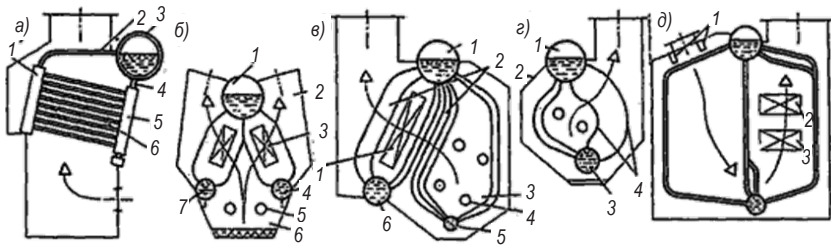
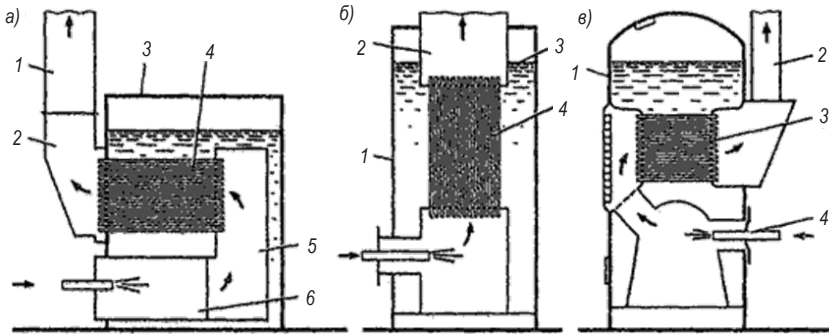

Fig. 10. Diagrams of the main design variants of water-tube boilers with natural circulation
Fig. 11. Schematic diagrams of gas-fired boilers
5. Select the definitions (right column of the table 5) for the most common auxiliary boilers on marine vessels (left column of the table 5) and indicate which of the diagrams correspond to them (fig. 10 and fig. 11):